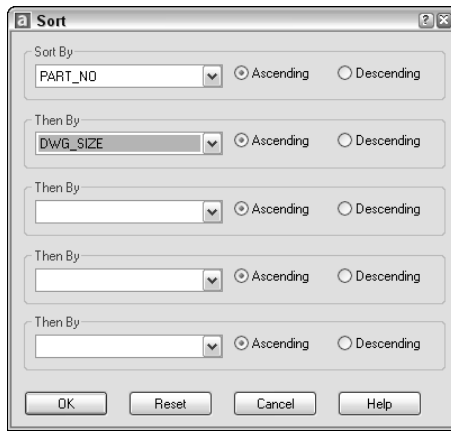

Figure 20-6: Use the Sort dialog box to temporarily sort your data in the Data View window.
- ♦ **Sort records:** You can sort records in ascending (low to high) or descending (high to low) order. Sorting helps you find the records you want more easily. Right-click any column header and choose Sort to open the Sort dialog box, shown in Figure 20-6. In the Sort By drop-down box, choose the column you want to sort by first. Then choose Ascending or Descending. This column may have duplicate records. If so, you may want to choose a secondary column for sorting in the Then By drop-down box. Choose Ascending or Descending for the secondary column. AutoCAD will then sort first by the first column and then for the secondary column. You can choose up to five columns to sort by.